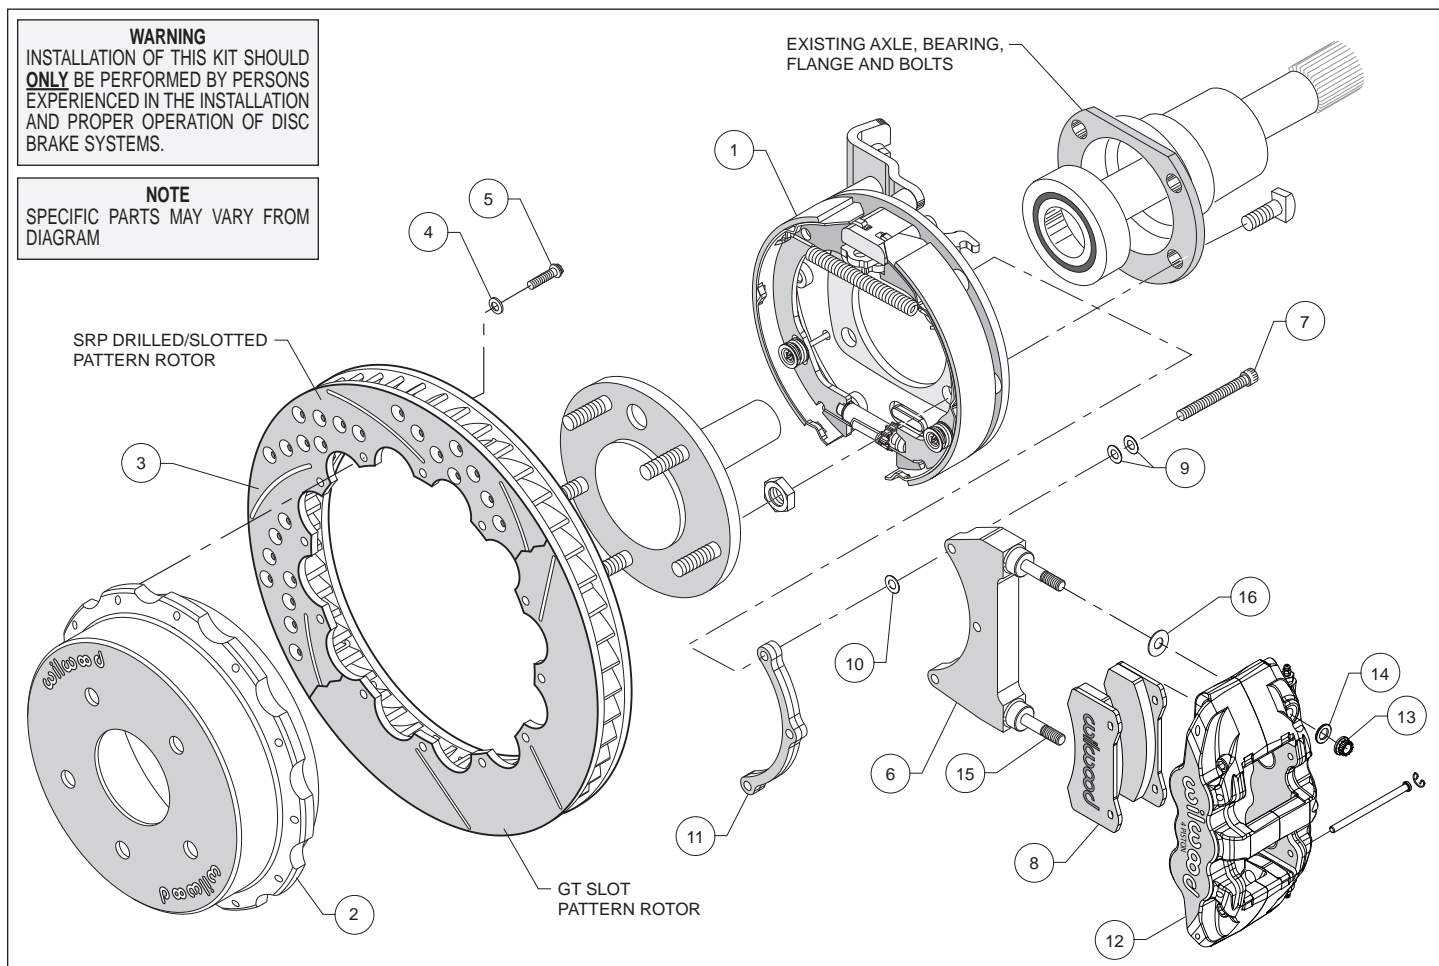

Figure 1. Typical Installation Configuration
- **NOTE:** Please reference the caution statement at the beginning of the assembly instructions. The caliper mounting bracket assembly (6) should be installed first with clean, dry threads on the mounting bolts (7). Install the bracket from the rear side of the bracket kit assembly (1) by sliding bolt (7) through two flat washers (9), bracket (6), shim washer (10) and finally through the spacer (11), see Figure 1. **NOTE:** End of bolt should not exceed inside face of insert. The bracket must tighten squarely against the back side of the bracket kit assembly (1). Inspect for interference from casting irregularities, machining ridges, burrs, etc. Use one thin shim (10) between the bracket (6) and spacer (11) during initial trial fitting.
- Lubricate caliper mounting studs and nuts with lightweight oil. Install one washer (16) over each pre-installed stud (15) on the radial mount bracket (6). Slide the caliper (12) in place over the studs and rotor, then install the washer (14) and lock nut (13) to hold the caliper in place. The caliper bleed screws should be pointing up. Snug the lock nuts (13) and check that the rotor (3) is centered in the caliper (12). Add or subtract .015" shims (10) as necessary between the caliper mounting bracket (6) and the spacer (11) to center the caliper (12).
- Remove the two pad retaining pins from the caliper (12) by carefully popping out the pin retaining clips and sliding out the pins. Insert the brake pads (8) into the caliper from the bottom, Figure 1. With the friction material facing the rotor, secure the brake pads in place with the pad retaining pins and clips. Reinstall the caliper onto the caliper mounting bracket and temporarily tighten the lock nuts. Check that the top of the brake pad is flush with the outside diameter of the rotor. If not, adjust by adding or subtracting shims (16) between the caliper and the bracket.
- Adjust the parking brake shoes outward (using a drum shoe adjustment tool available at your local auto parts store) while spinning the hat (2) until a slight drag is felt against the hat/drum. Remove the lug nuts that were holding the hat/rotor in place. Install the wheel and lug nuts. Check to see that the wheel rotates freely without interference.
- Once all clearances have been checked, remove the wheel, caliper, hat/rotor from the bracket kit assembly (1). Secure the caliper mounting bracket (6) to the bracket kit assembly (1) using red *Loctite*® 271. Torque bolts (7) to 180 in-lb. Reinstall the hat/rotor assembly and again use lug nuts to hold it in place. Reinstall the caliper, torque the caliper nuts (13) to 47 ft-lb.
- **NOTE:** Clevis and cable kits which attach to the parking brake assembly are not included in the Wilwood parking brake kit. Wilwood offers a generic style parking brake cable kit, P/N 330-9371 for this application which can be ordered separately from your local Wilwood dealer or by calling Wilwood customer service at (805) 388-1188.